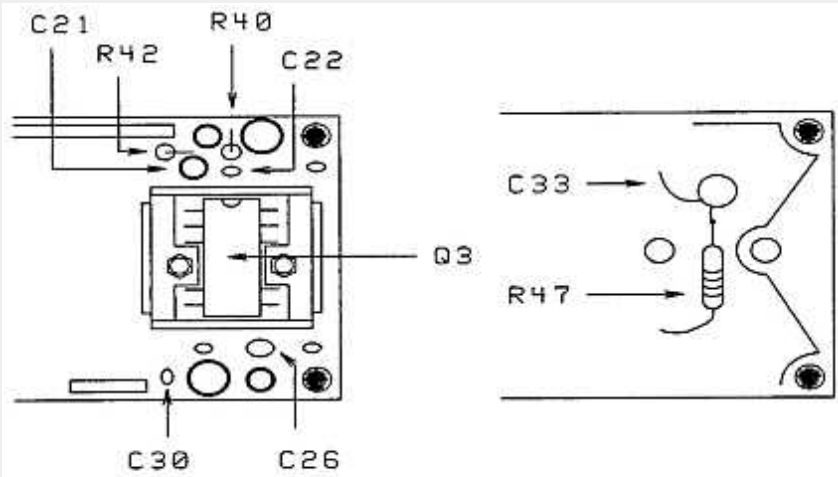

FIGURE 1
4. Remove the two nuts that secure the heat sink to the audio amplifier (Q3) and then remove the heat sink. Figure 1.
5. Desolder and remove Q3, C21, C22, C26, C33, R40, R42, and R47 from the AF AVR board. C33 and R47 are mounted on the foil side of the board, but may not be installed on some models. Figure 1 and 2.
6. Using the parts from the kit, install a 22 uF capacitor in the C21 position, a 0.068 uF capacitor (labeled 683K) in the C22 position, a 3.9 ohm resistor in the R40 position, and a 470 ohm resistor in the R42 position. Figure 1
7. Solder a 0.1 uF capacitor (labeled 104K) in parallel with C30. Mount the part on the foil side of the AF AVR board. Figure 1